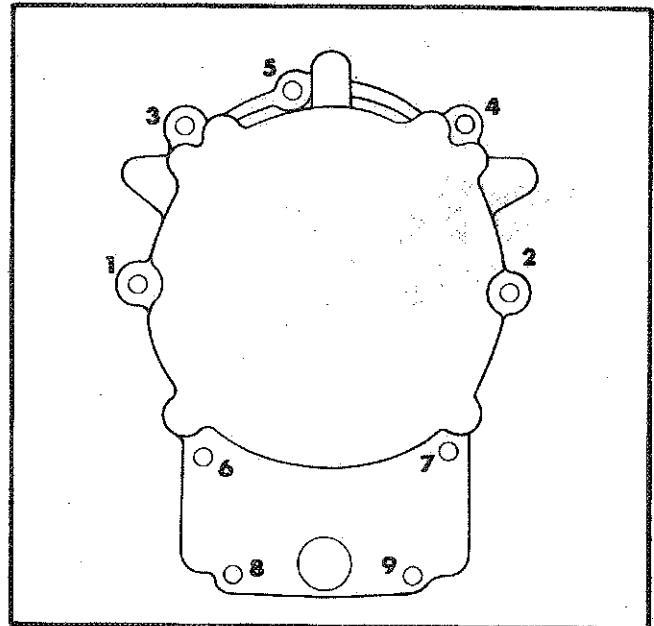

Figure 11-27. Closure Plate Fastener Torque Sequence.
2. Install the gasket, closure plate, and hex flange screws. Torque screws to 150 in. lb. in the sequence shown. Refer to Figure 11-27.